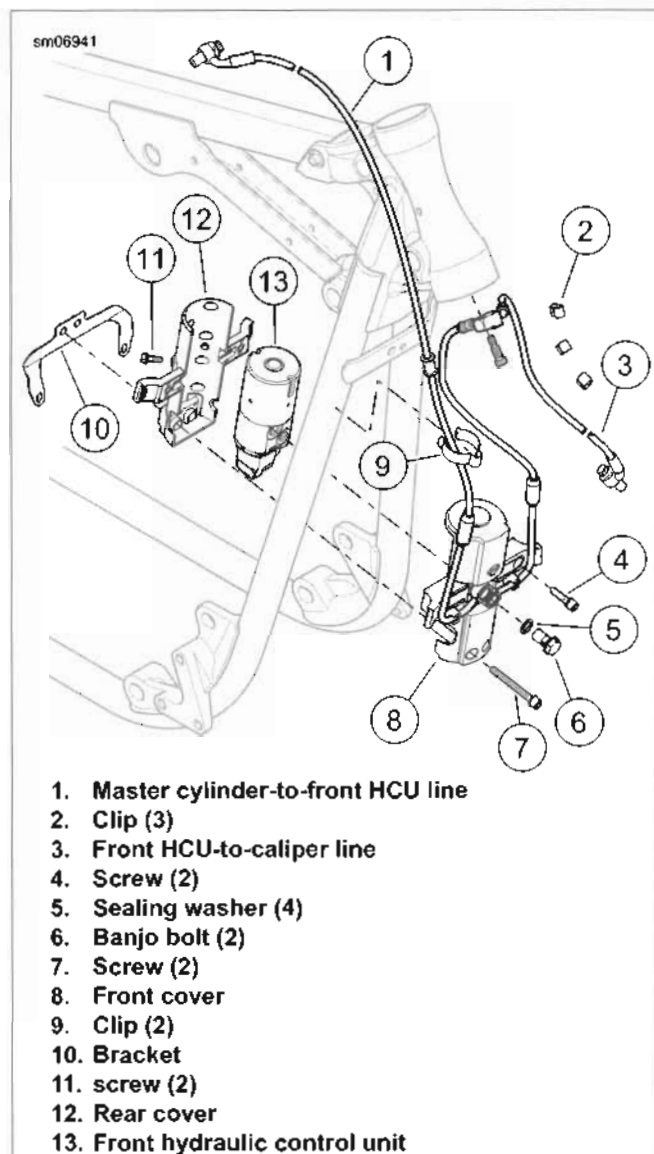

Figure 2-71. Front Hydraulic Control Unit
3. See Figure 2-71. Remove banjo bolts (6) to release brake lines from front HCU. Discard sealing washers.
4. Remove screws (4, 7, 11) and separate front HCU (13) from front and rear covers (8, 12).
1. See Figure 2-71. Place rear cover (12) on front HCU (13) and secure with screws (11). Tighten screws to 24-36 in-lbs (2.7-4.1 Nm).
2. Attach electrical connector to front HCU (13).
3. Place front cover (8) into position and secure with screws (4, 7). Tighten screws as follows.
- a. Screws (7) to 54-84 in-lbs (6.1-9.5 Nm).
- b. Screws (4) to 48-72 in-lbs (5.4-8.1 Nm).
4. Install banjo bolts (6) with new sealing washers (5). Tighten to 120-144 in-lbs (13.6-16.3 Nm).